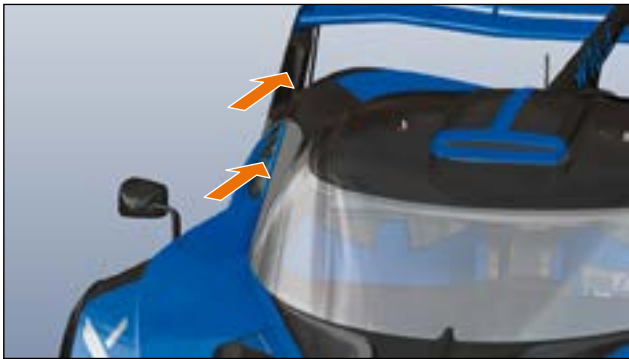

FIG.93 EXTERNAL FANS END PLATE
- Place the external fans in front of the air ducts on the left and right side as soon as the car is stationary, within 10 seconds(» Fig.93).